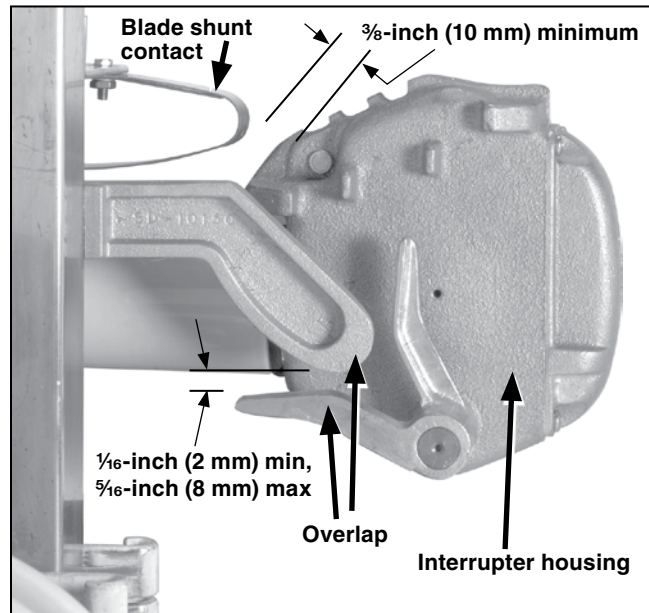

Figure 48. Blade assembly in the fully Closed position.
- (b) With the blade assembly in the fully **Closed** position, verify the minimum clearance between each blade shunt contact and its respective interrupter housing. See Figure 48. The shunt contacts may be bent as required to provide this clearance.
- (c) Also, when the blade is in the fully **Closed** position, each blade-closing cam must overlap its respective interrupter closing lever to prevent inadvertent opening of the interrupter. Clearance between the blade-closing cam and its respective interrupter closing lever must be within the limit shown. See Figure 48.